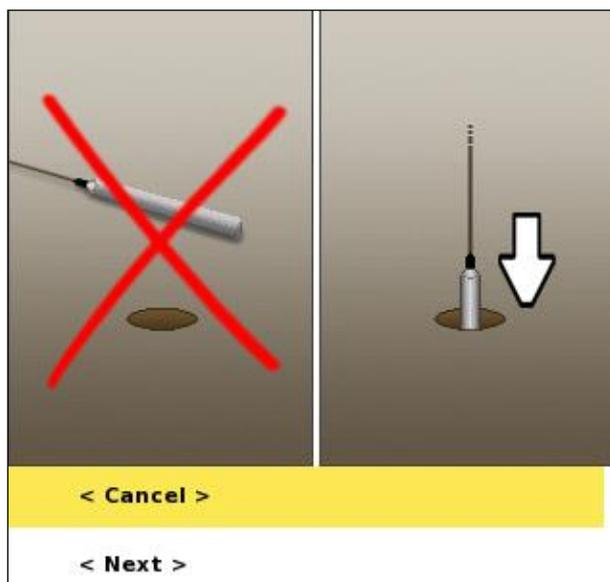

Figure 80 First Check level dialog
- The first dialog (Figure 80) instructs the user to lower the probe into the well